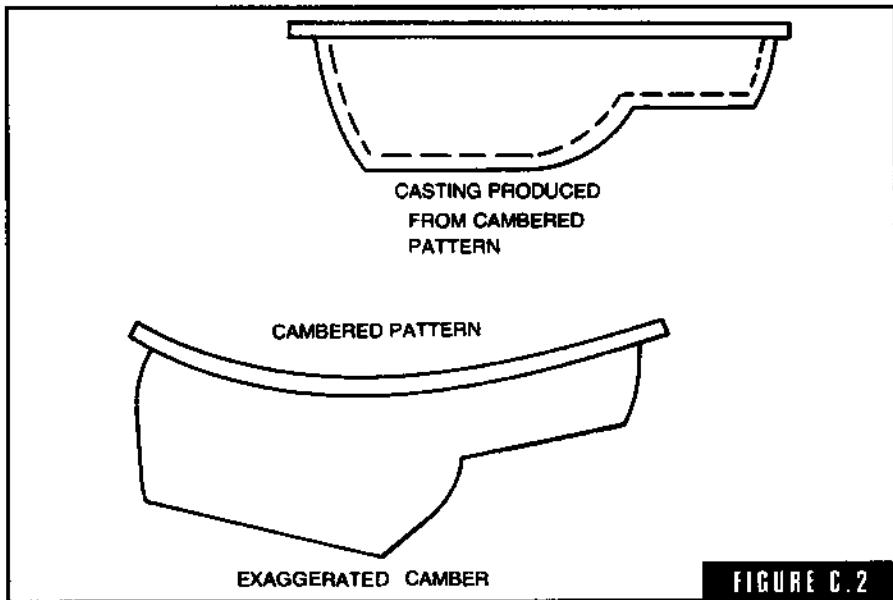

FIGURE C.2
**camber (pattern)** A pattern is intentionally bowed, sprung, or faked to prevent a camber defect (warp) (Fig. C-2). The pattern is cambered in the opposite direction of the anticipated warp. If done correctly the casting will come out true.